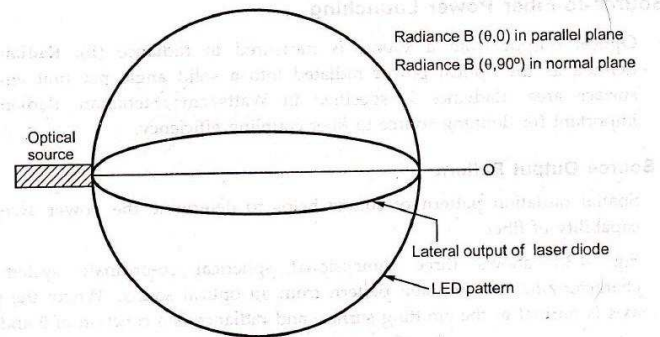

Fig. 4.3.2 Radiance pattern of Lambertian source
- x The Lambertian output by surface emitting LED is equally bright from any direction. The emission pattern of Lambertian output is shown in Fig. 4.3.2 and its output is –